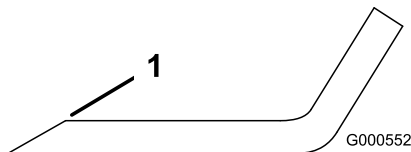

Figure 57
1. Use a file to sharpen the cutting edge at both ends of the blade (Figure 57).
**Note:** If the blade is not balanced, file some metal off the end of the sail area only (Figure 57).